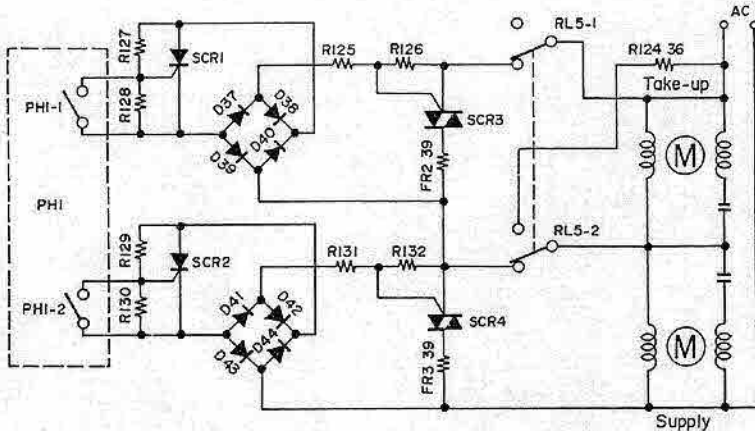

Fig. 30
"H" enters the base of TR42 through R115 to turn TR42 ON and RL5 ON. Fig. 30 shows the condition when RL5 is ON. R124 36 ohms so far attached is disconnected from the take up reel motor. Suppose the signal of IC2 ⑫ (reel motor control) is in "L". TR40 is OFF via R108, and TR38 is turned OFF via R104. TR38 collector will be "H". The base of TR49 will be "H" through R106 to turn TR39 ON, i. e., the switch of PH1-2 is ON.